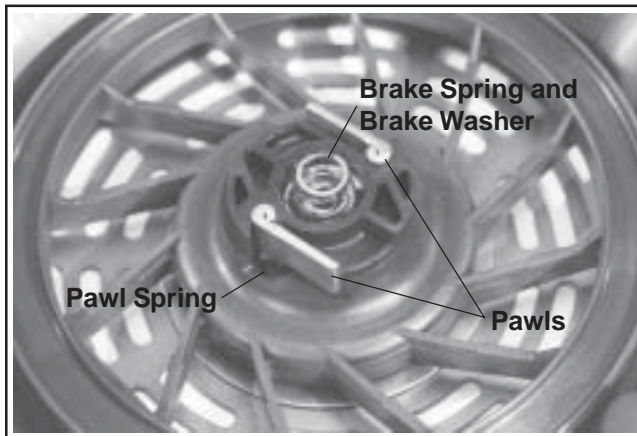

Figure 7-5. Brake Spring and Washer, Pawls, and Pawl Springs.
- 3. Remove the brake spring and brake washer. See Figure 7-5.